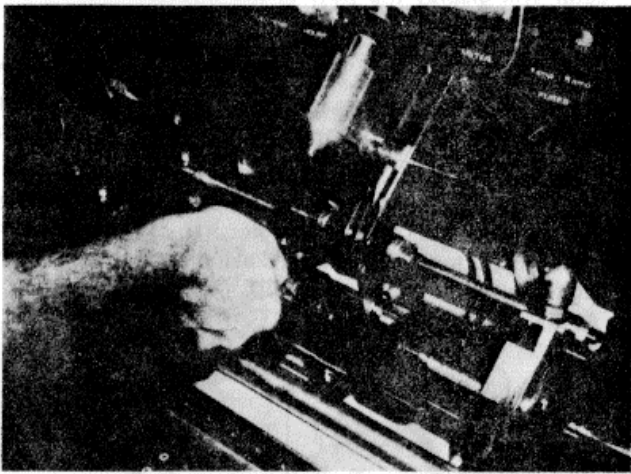

Figure 16H-71. Burnishing the PT Injector
4. Insert the burnishing tool point in the orifice and push in on the tool until it clicks. Burnishing tool, 3375408, is adjustable. The tighter the spring is screwed down, the harder the point hits, the more fuel flow increases, Figure 16H-71